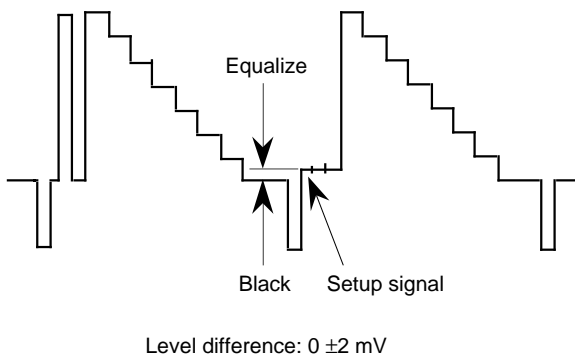

Fig. 5-12
3. As shown in Fig. 5-12, adjust the R SETUP data so that the black level and setup signal level becomes equal.
5. As shown in Fig. 5-12, adjust the G SETUP data so that the black level and setup signal level become equal.
7. As shown in Fig. 5-12, adjust the B SETUP data so that the black level and setup signal level become equal.